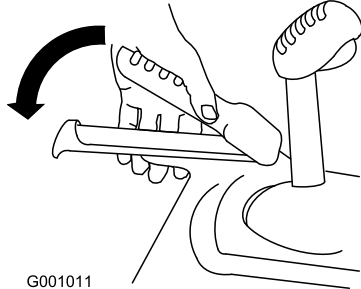

Figure 35
1. To engage the traction drive, squeeze the left hand (traction) lever to the handgrip (Figure 35).